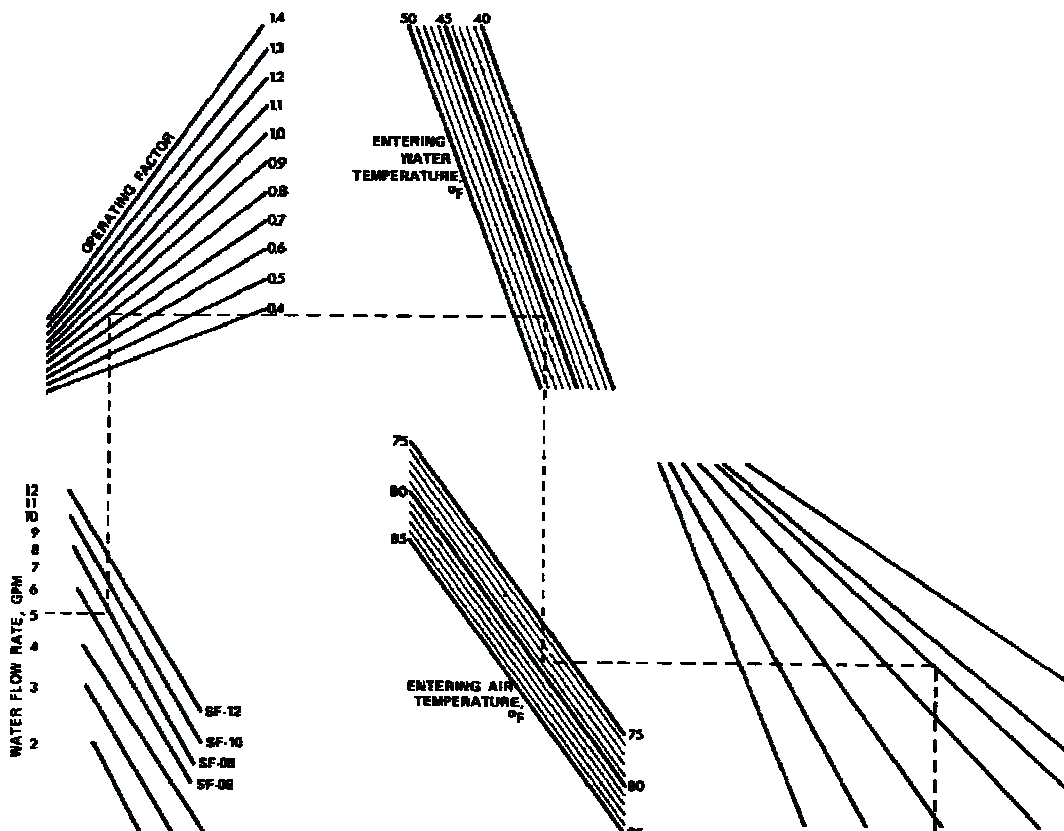

FIGURE 1. WET TARING SENSIBLE COOLING CAPACITY
The water flow rate is determined from FIGURE 1, which gives the total cooling capacity as a function of water flow rate (GPM) with the operating factor (OF) and the unit size as parameters.
Note 1: If it is required to operate the fan-coil unit at medium or low fan speed, the capacity multiplying factor, (FIGURE 1) for the fan speed should be applied before the above procedure is followed. Namely, the given total cooling capacity should be divided by the capacity multiplying factor, resulting in a higher initial cooling capacity. Then, using the corrected total cooling capacity follow the procedure outlined above.
*Note 1:* If sensible cooling capacity, with medium or low fan speed is desired, apply the capacity multiplying factor for fan speed (FIGURE 1).
*Note:* If it is required to operate the fan-coil unit at medium or low fan speed, the capacity multiplying factor for the fan speed, as given in FIGURE 1, should be applied before the above procedure is followed. Namely, the given heating capacity should be divided by the capacity multiplying factor, resulting in a higher initial heating capacity. Using the corrected heating capacity, the procedure stated above should be followed.